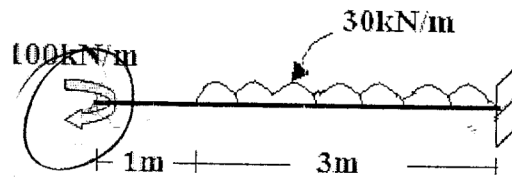

Figure: 1
6) Draw S.F.D and B.M.D for the cantilever beam loaded as shown in figure 1. [5+5]